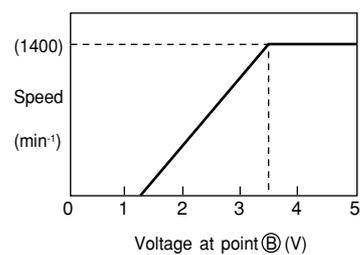

Fig. 7-3
- The pulse is converted into the analog voltage by the R751 and C751 and applied to the fan motor as the speed command voltage. Fig. 7-3 shows the relation between the voltage at the point (B) and the speed. (Some differences will occur due to the condition of the unit.)
- The fan motor outputs the feedback pulse of the speed, which is input into the pin (14) on the micro computer. This pulse is equivalent to a frequency of $12/60$ speed. (Example: $1000 \text{ min}^{-1} \times 12/60 = 200 \text{ Hz}$)